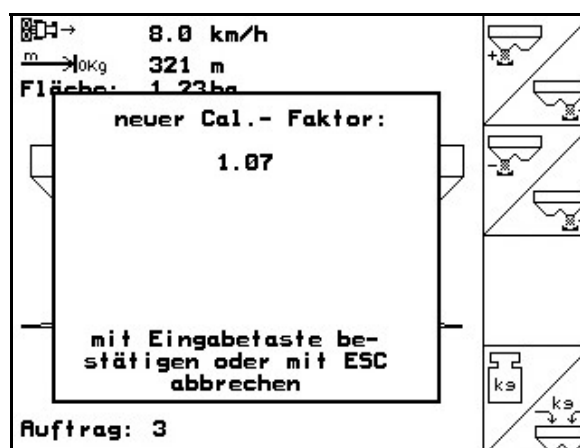

Fig. 58
8. The new calibration factor is displayed and confirmed with , or discarded with (Fig. 58).